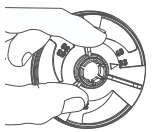

Figure 9
- 2 Remove the stator assembly and adjust by turning the black stator plate until the arrow aligns with the nozzle in use (Figure 9).